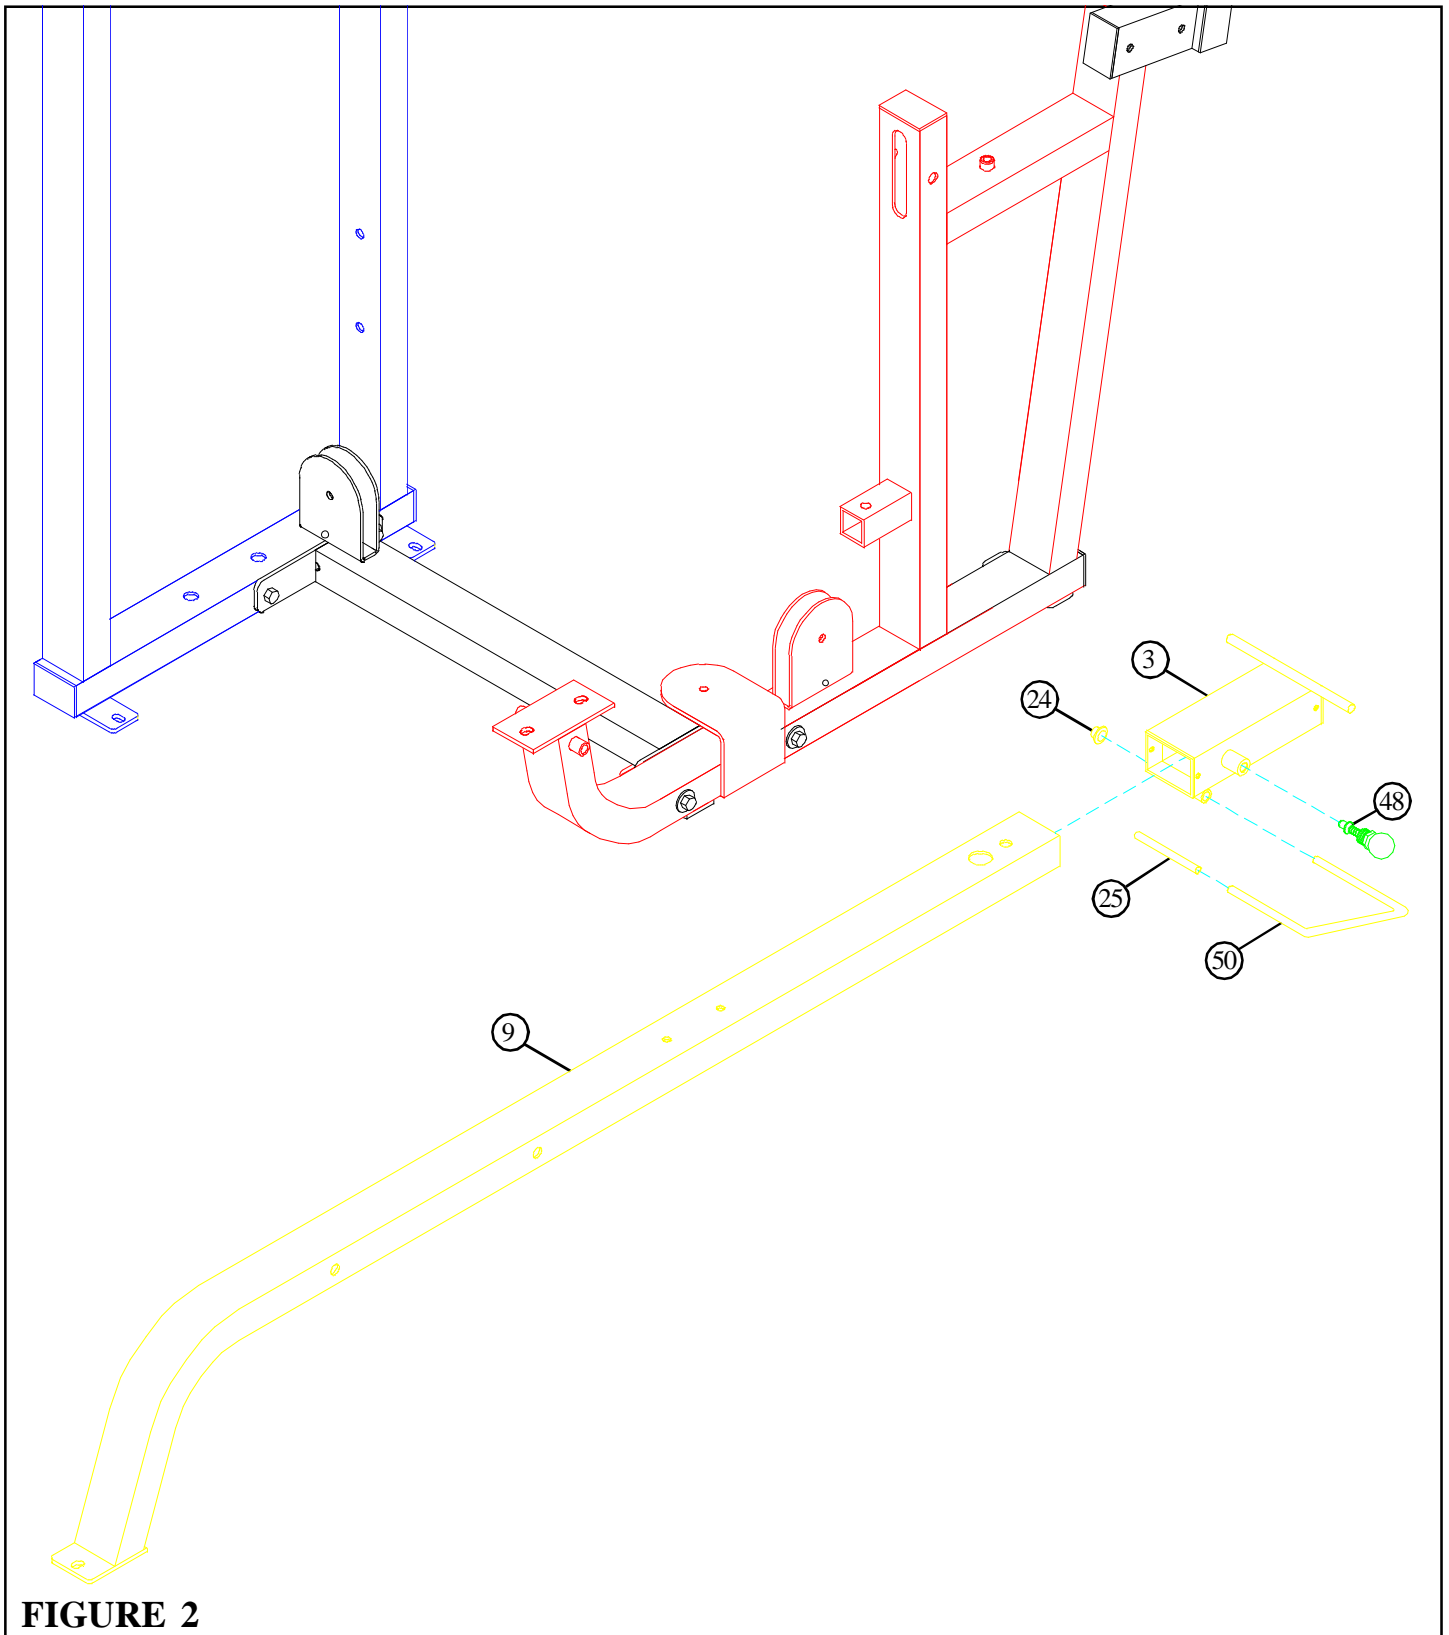

FIGURE 2
- **SECURELY** assemble one 3/8" SPRING PIN (48) to the WOLFF SLEEVE (3) as shown in FIGURE 2. (**IMPORTANT! Tighten nut of SPRING PIN completely.**)
- Attach one U-PIN (50) to the WOLFF SLEEVE (3) using one 1/2" PAL NUT (24). Slide one 4" VINYL CAP (25) onto the U-PIN (50) as shown in FIGURE 2.
- Pull back on SPRING PIN and **CAREFULLY** slide the assembled WOLFF SLEEVE (3) onto the PRESS FRAME (9) until the SPRING PIN engages in one of the holes. See FIGURE 2.